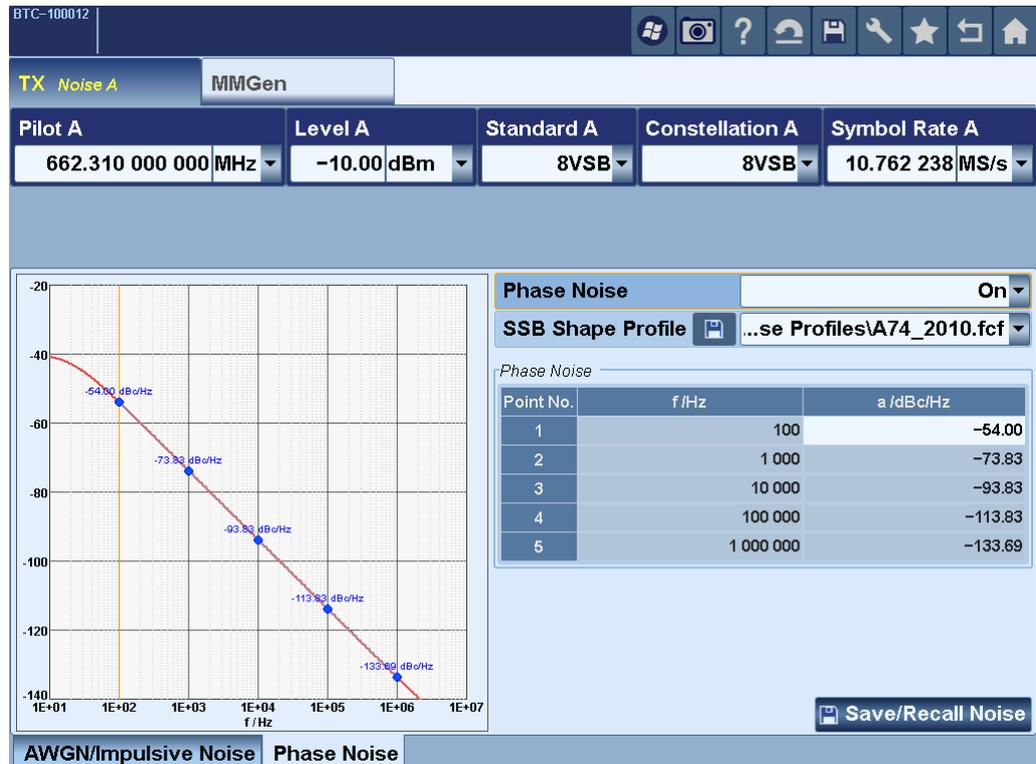

Figure 4: R&S®BTC-Phase noise settings
- Set phase noise value for 100 Hz to -54 dBc/Hz. According to the decay of 20 dB per decade of frequency, this equals -94 dBc/Hz at 10 kHz. The value at 20 kHz is not shown in the R&S®BTC phase noise settings (Figure 4), but can easily be determined (-100 dB) by subtracting 6 dB from the 10 kHz value.